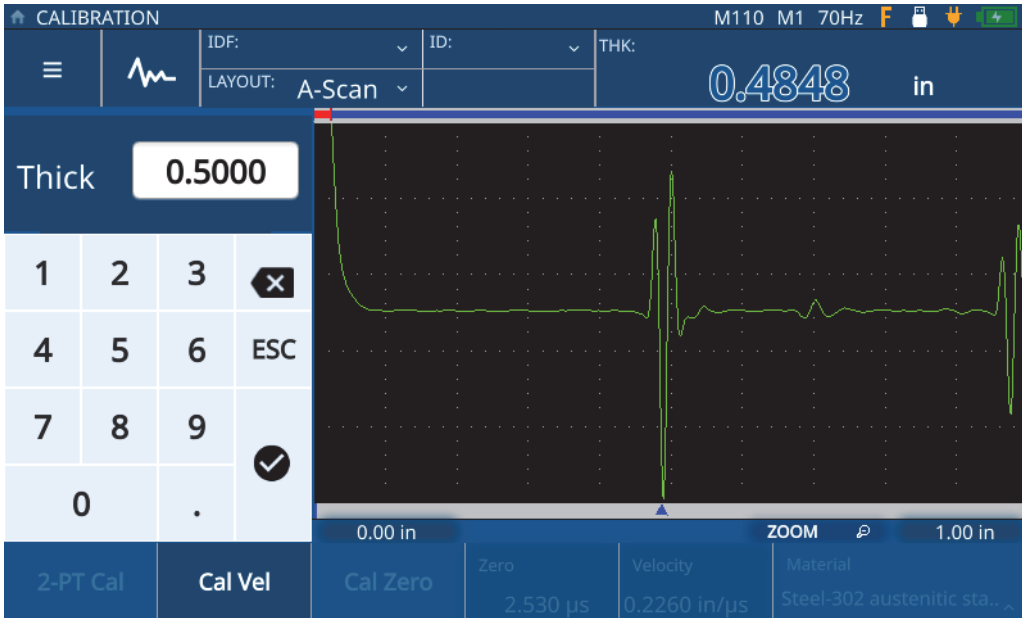

Figure 5-9 Entering Sample Thickness
5. Tap the **Thick** value to enter **Edit** mode, and enter the thickness of the sample (see Figure 5-9 on page 48).